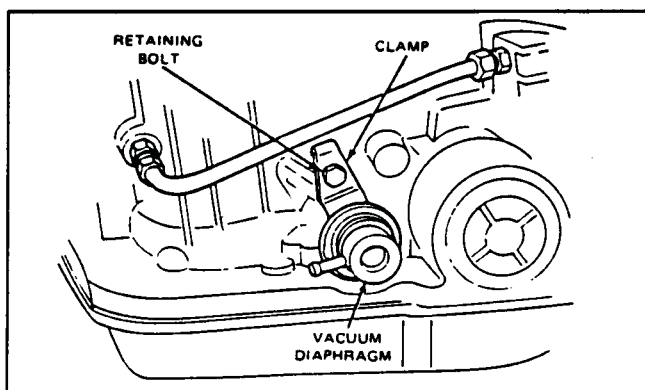

FIG. 42 Vacuum Diaphragm
2. Install the vacuum diaphragm (Fig. 42).